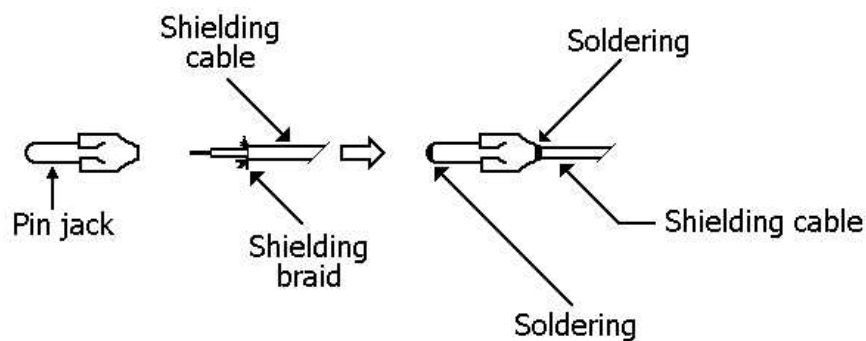

Fig. 3
1. Solder an ancillary coaxial cable and a pin plug as shown in Fig. 3. After having soldered, connect the pin plug to the RF pin jack of the Θ -7000E and the other end of the coaxial cable to an antenna terminal of a home TV set. Tune TV set to CH3 or CH4,